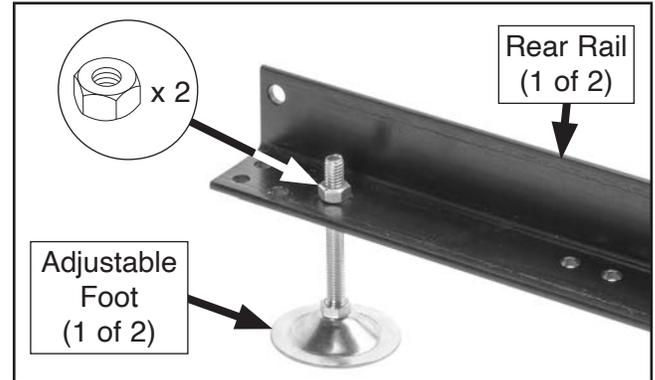

Figure 16. Feet attached to rear rails.
4. Install remaining adjustable feet on unattached rear rails with (2) $\frac{1}{2}$ "-12 hex nuts, as shown in **Figure 16**.